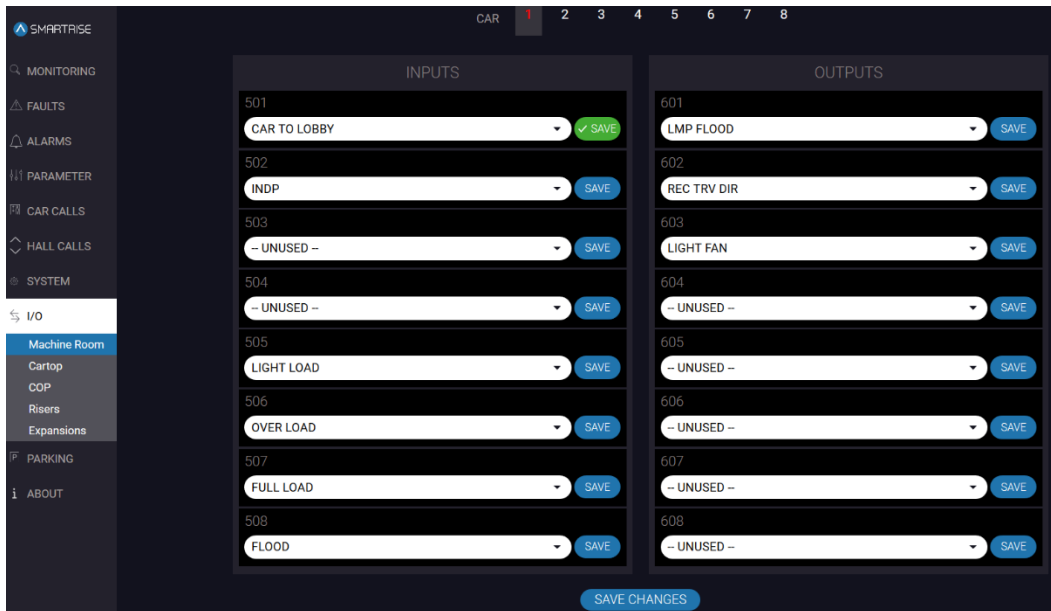

Figure 65: I/O Screen – Machine Room – Save
3. A green checkmark displays. See Figure 65.